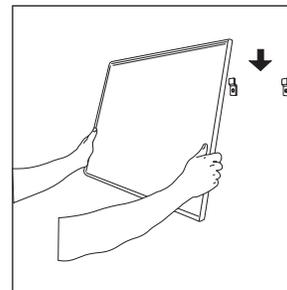

Fig. 3
4. Once the hangers are firmly affixed to the mounting surface, hold your MarkerBoard to the wall and place the top horizontal metal edge on the back of the unit over the hangers mounted to the wall (Fig. 3). Double check to insure that the unit is properly engaged. The bottom of the unit may be taped to the wall if desired. **Caution: Be sure the unit is in its proper location before using tape.** Tape is located on the reverse side at the two lower corners of the frame. A blue tape liner should be peeled off to expose the tape surface. Once tape is exposed, and unit is resting against the wall surface, apply moderate hand pressure at the tape locations.